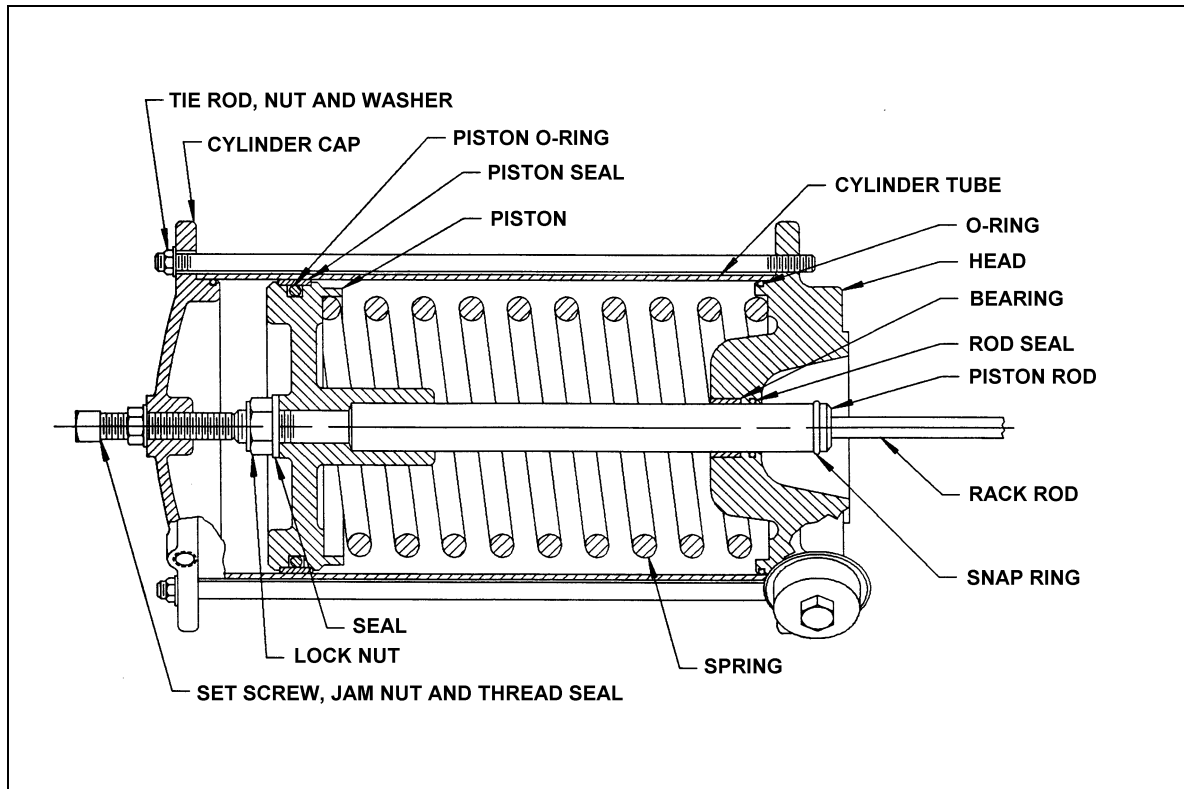

Figure 3— Cylinder Parts Location
- Loosen the jam nut and remove the set screw in the cylinder cap. See Figure 3 for parts identification.